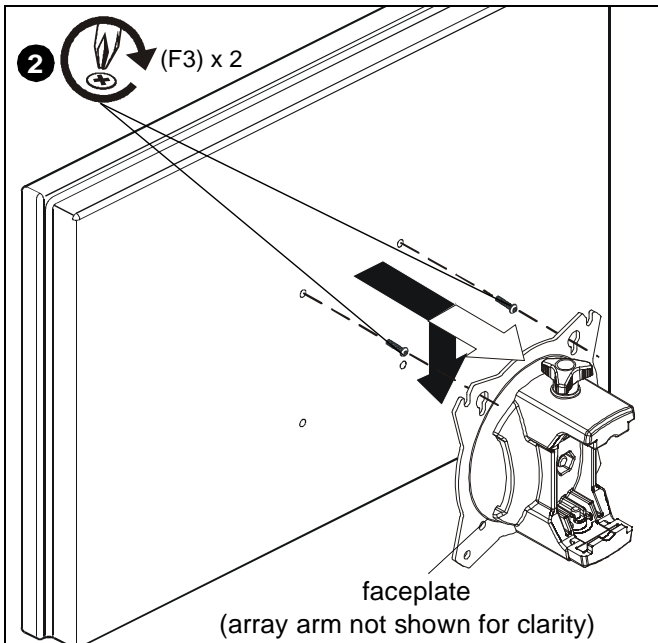

Figure 8
2. Using Phillips screwdriver, carefully install two M4 x 12mm Phillips pan machine screws (F3) into the *upper* mounting holes on the display. Thread screws completely into display, then back out 3 complete turns. (See Figure 8)
3. Pick up and align display so that screws (F3) (installed on the back of the display in the previous step) fit into the mounting holes on the faceplate. Lower the display firmly into place. (See Figure 8)